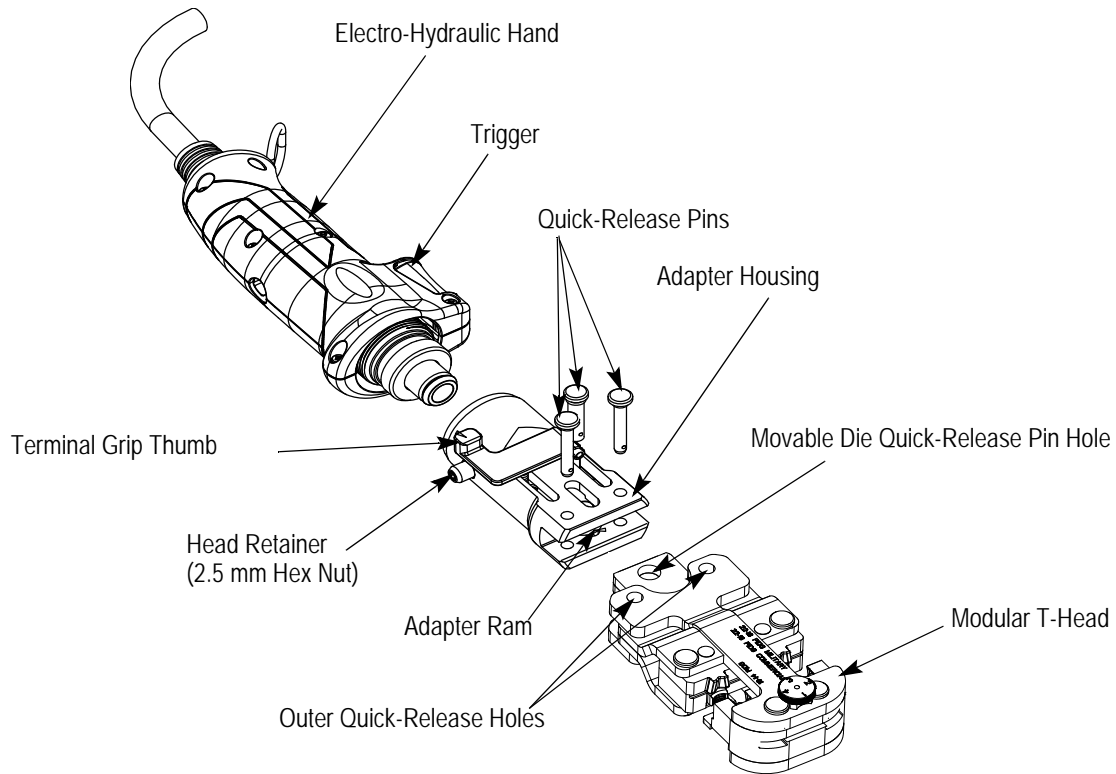

Figure 3
As supplied, the adapter assembly has three quick-release pins installed. Refer to Figure 3. The two outer pins will be used to secure the two outer housing tabs of the Modular T-Head to the adapter assembly.
1. Remove the quick-release pins (see Figure 3).
3. Insert the two outer quick-release pins through the holes in the adapter housing and the holes in the two outer tabs of the Modular T-Head. See Figure 3.
3. Press the terminal grip thumb button (Figure 3) to advance the lower tooling and hold the contact in place.
5. Press the terminal grip thumb (Figure 3) to advance the lower tooling and hold the contact in place.
5. Press the terminal grip thumb button (Figure 3) to advance the lower tooling and hold the contact in place.